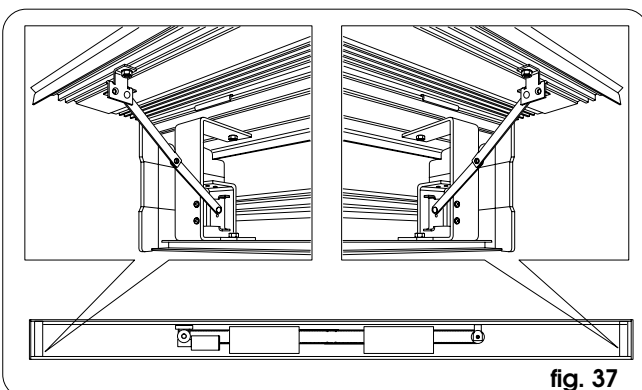

fig. 37
- articulated arms to be installed as in fig. 37.